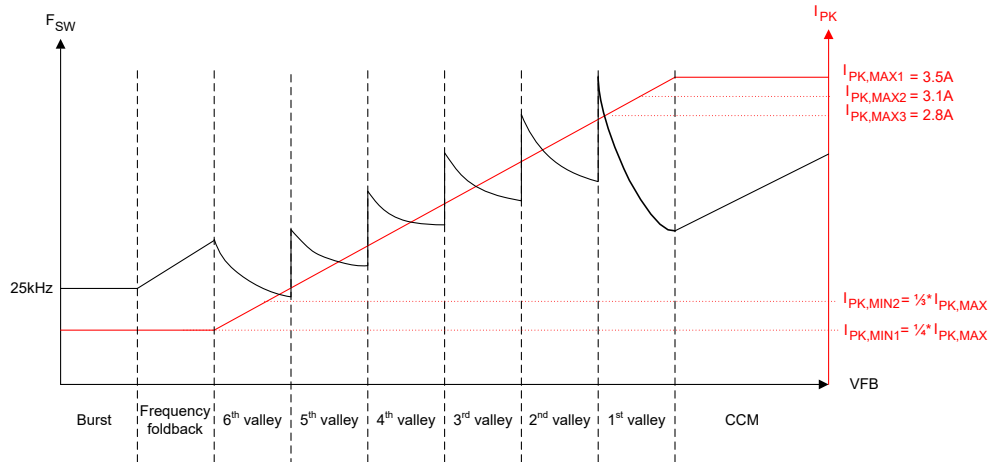
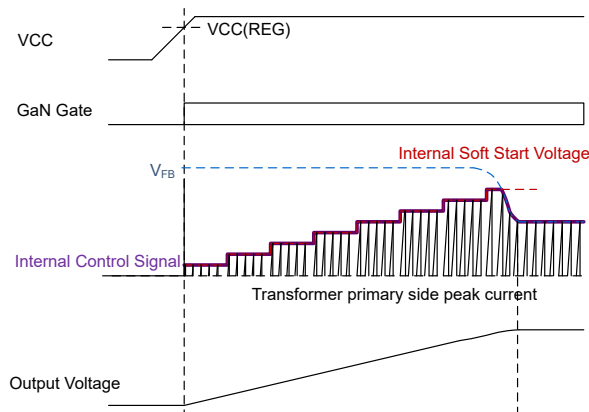

Figure 7-3. UCG2882x Control Law
Figure 7-8. Soft Start Sequence
Connect the feedback (FB) pin to the collector of the optocoupler for output regulation. This pin has an internal 60kΩ pull up for optocoupler bias. The instantaneous voltage on this pin determines the switching frequency, peak current and mode of operation (burst, foldback, valley switching or CCM) as per the control law in Figure 7-3 to deliver the required output power. Connect a 100pF or 220pF capacitor from this pin to ground for high frequency noise filtering.
Hence, in UCG2882x, in every switching cycle, the primary GaN HEMT turns off after reaching the peak current threshold and turns on next at a target valley in magnetizing ring during discontinuous mode (DCM) operation. The instantaneous primary peak current and target valley is determined by the feedback (FB) pin voltage as per the control law of Figure 7-3. Connect the FB pin to the optocoupler collector. The negative feedback loop sets FB pin voltage to the required value to support a certain V_{OUT} and P_{OUT} on the output. The device can operate in one of the four modes of operation: burst, frequency foldback, valley switching or continuous conduction mode, as described later.
In the control law shown in Figure 7-3, the UCG2882x offers flexibility to select a max peak current $I_{PK,MAX}$ to optimize for the switching frequency at rated load and transformer size. For each $I_{PK,MAX}$ setting, a scaling ratio of 1/3rd or 1/4th is available for the minimum peak current $I_{PK,MIN}$. This $I_{PK,MIN}$ value determines the switching frequency and losses in light load conditions when the flyback converter is operating in frequency foldback or burst modes. For all values of $I_{PK,MAX}$ and $I_{PK,MIN}$, the slope of control law peak current vs feedback voltage remains the same, as per Equation 1. Table 7-5 shows the threshold voltages for transition between different modes and between valleys for different peak current settings of Table 7-2.
The UCG2882x is designed to operate with soft switching and primary FET turn-on at a valley to reduce switching losses. The converter operates in valley switching except during peak load transients during which control can transition to CCM mode (if enabled using CDX pin). During valley switching mode, the target valley and peak current threshold are governed by the control law of Figure 7-3 and Equation 1:
As shown in Figure 7-3, once the boundary of 1st valley QR operation is reached with increasing output power, the control clamps I_{PK} to the maximum selected value $I_{PK,MAX}$, and begins to reduce the secondary conduction time T_{OFF} in CCM mode. This reduction in T_{OFF} is proportional to increase in FB pin voltage, till 50% of the QR mode off-time to reach max. 1.5x the QR mode output power delivery capability. Care needs to be taken to use a primary magnetizing inductance L_M large enough to not hit the frequency clamp during CCM mode and avoid any subharmonic oscillations which could increase output voltage ripple, depending on application requirements. For long duration output power transients, the converter returns to 1st valley QR mode after expiry of the 10ms CCM timer and continues to deliver the largest possible output power at the transition point of QR and CCM modes, while operating in QR mode. The device offers flexibility to enable/disable CCM mode operation with a resistor from the CDX pin to GND as per values in Table 7-4.
When turned on, a flyback converter starts with 0V output voltage. This can cause the feedback voltage FB to clamp to its max. value and trigger overload protections. To prevent this from happening, the UCG2882x starts in soft start mode. As Figure 7-8 shows, during this time, an internal FB voltage ramp increases in eight steps from 0V to its max. value in 4ms. The max. value of internal FB ramp is at FB pin voltage equivalent of 80% of $I_{PK,MAX}$ setting and changes for different resistor settings on IPK pin. During this time, the smaller of this internal ramp voltage and actual FB pin voltage is used to determine the device operating point in the control law of Figure 7-3. Once the internal FB ramp voltage reaches the max. value at the end of 4ms is when control is transferred to FB pin voltage for output regulation. Soft start sequence is executed every time at start up or when recovering from fault (auto-retry or latch) and brown-out conditions. The minimum frequency clamp is changed to 10kHz only during soft start (which is otherwise at 25kHz during normal operation). This helps at startup when valleys are missing and the control law forces turn-on of primary GaN HEMT every 100μs from the last turn-on edge (if valleys are missing), to charge the output capacitor.